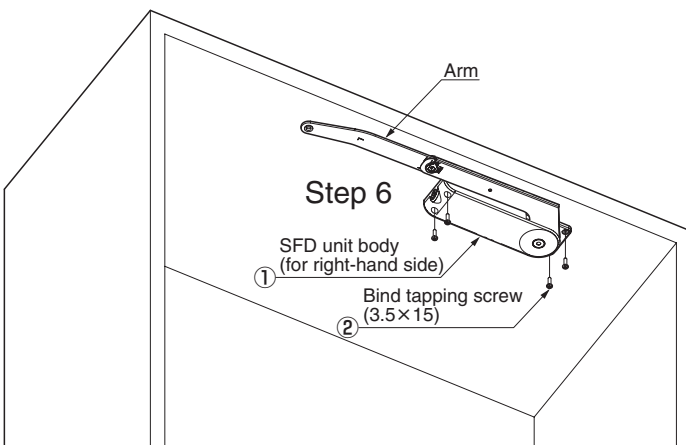

Fig. 7. Installation of unit body
- step6 Put the unit body ① the arm length of which has been adjusted according to the door width on the specified position of the inside surface of a cabinet (As for the mounting dimensions refer to Fig. 3 and Table 2) and fix it with the attached bind tapping screws (3.5x15) ② (Fig. 7).